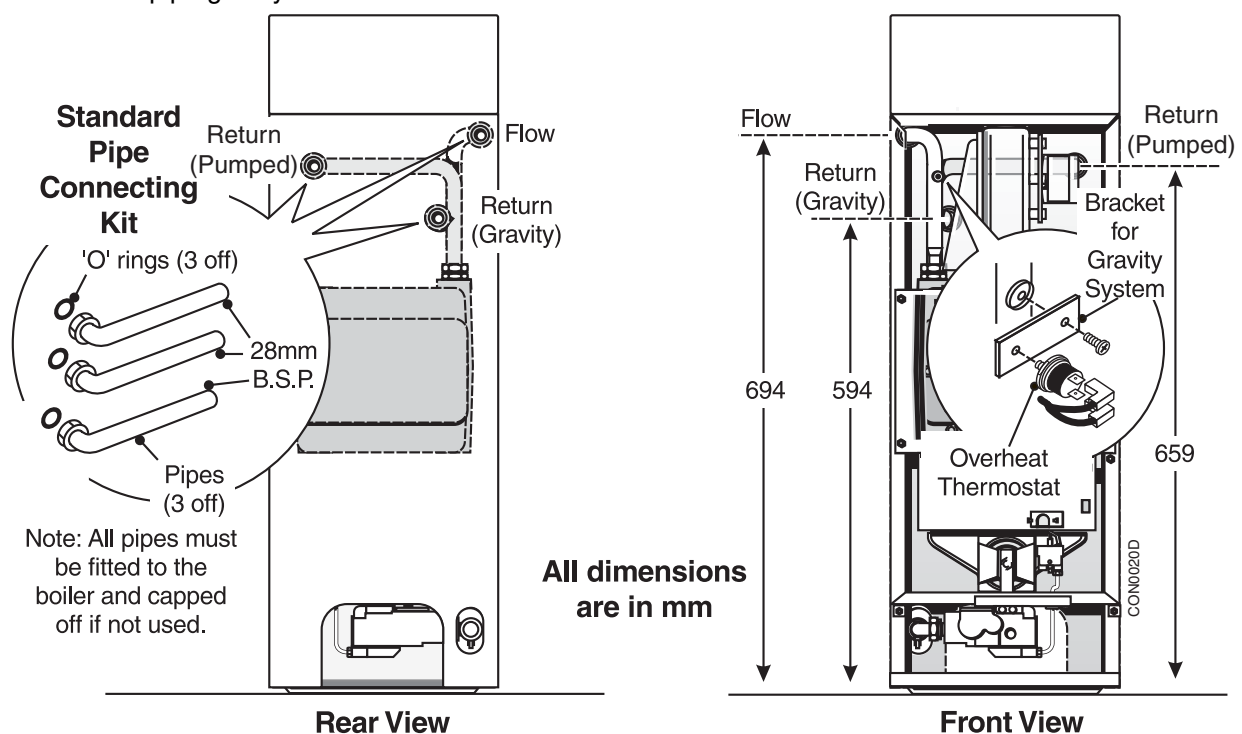

Fig. 19
- 3 On Gravity DHW systems check that the overheat thermostat is fitted correctly. See Fig. 19, page 19.